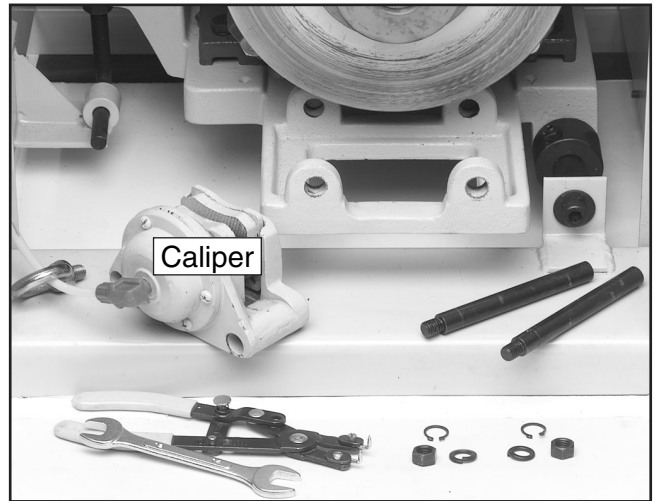

Figure 24. Disc brake.
2. Remove the nuts from the two mounting bolts and the two snap rings on the mounting pins behind the bracket (see **Figure 24**).